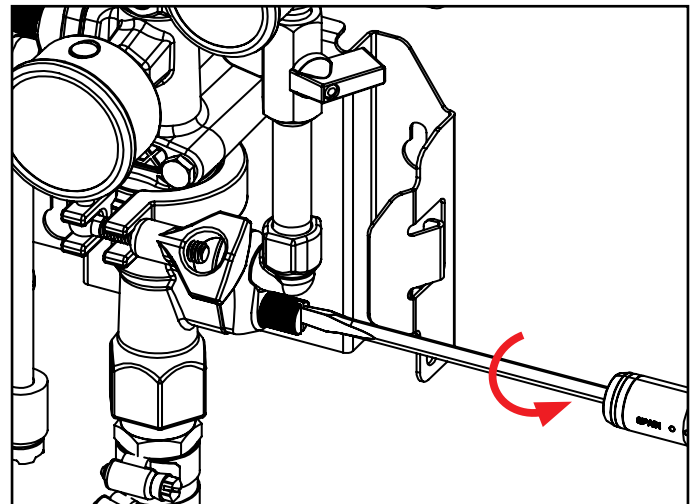

Fig. 9.2: Loosening thumb screw on elbow (foamer air inlet)
3. Loosen the thumb screw on the elbow by hand or using a flathead screwdriver. [Fig 9.2]